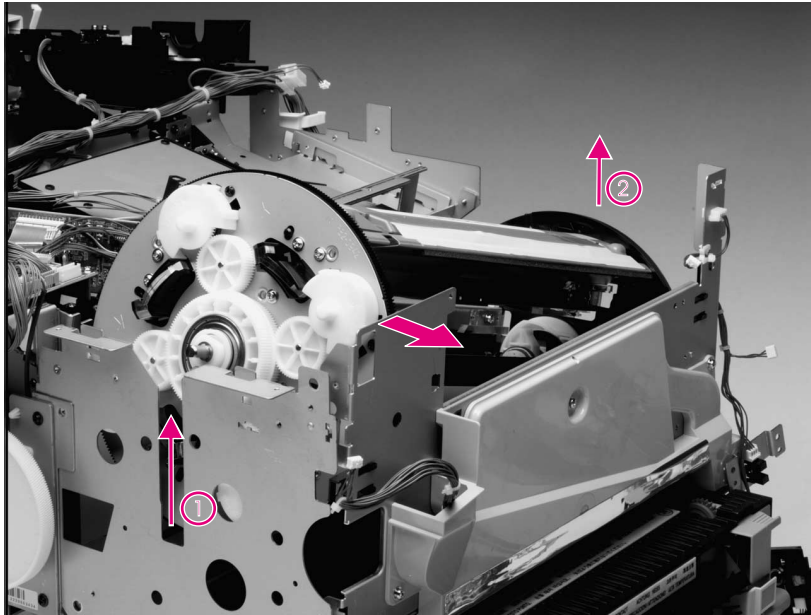

Figure 6-68 Cartridge carousel replacement - lift out the cartridge carousel (6 of 6)
- 29 Standing at the rear of the printer, lift the left side of the carousel while applying pressure toward you to the rear cross-member plate. As soon as the carousel clears the right-side carousel mounting plate, lift and rotate the carousel to your left to clear the assembly (see Figure 6-68).